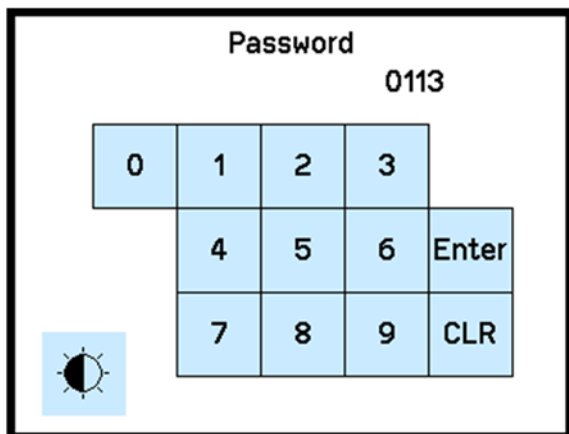

Figure 10
- The password screen will appear, and a password will be requested (**Figure 10**).